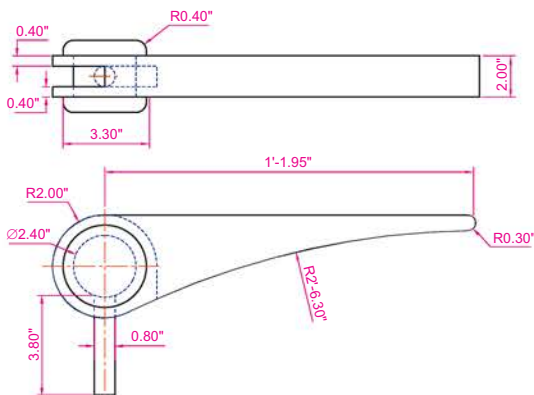
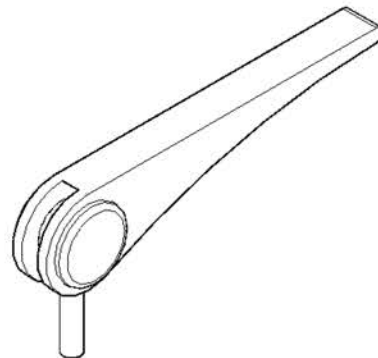

Fig. 10.18 Exercise 4 – orthographic projection
Fig. 10.19 Exercise 4
4. A two-view orthographic projection of a rotatable lever from a machine is given in Fig. 10.18 together with an isometric drawing of the 3D model constructed to the details given in the drawing (Fig. 10.19).